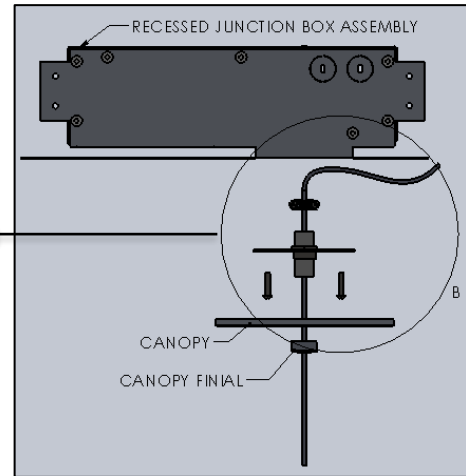

FIG. 32 – CORD INSTALLATION TO J-BOX
25. Insert CORD through the STRAIN RELIEF and tighten two SCREWS on the STRAIN RELIEF above the all-thread where marked. If screws are not properly tightened CORD could slip; through the STRAIN RELIEF, causing the fixture to fall. see detail as shown in FIG.32.